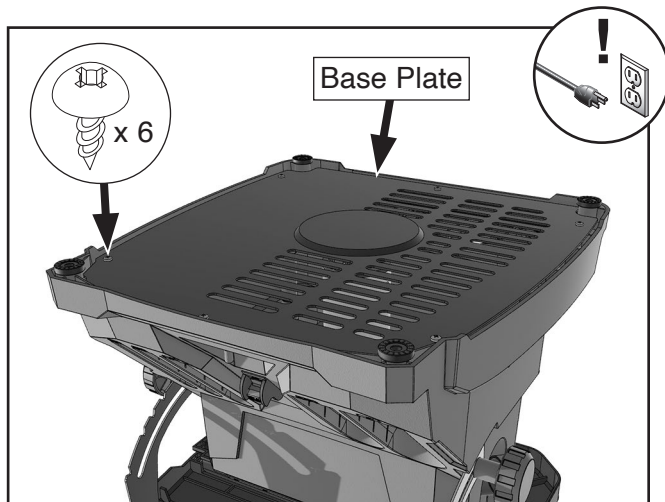

Figure 49. Location of base plate and screws.
2. Remove all sanding attachments, then place sander upside down on blocks (see **Figure 49**), ensuring proper clearance of spindle.
3. Remove (6) screws that secure base plate to remove base plate (see **Figure 49**).